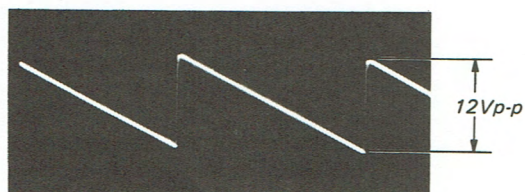

Fig. 39-2.
2. Turn DA Board RV5 to make V LAMP waveform 12V_{p-p}. (Fig. 39-2)